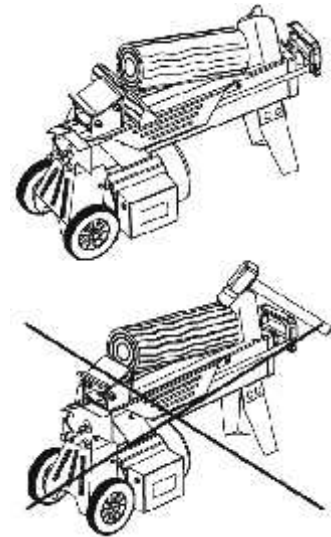

Fig.20
- After the ram has returned to its initial position and has completely stopped at its starting position, then insert a wedge wood under the jammed log. (Fig. 20).